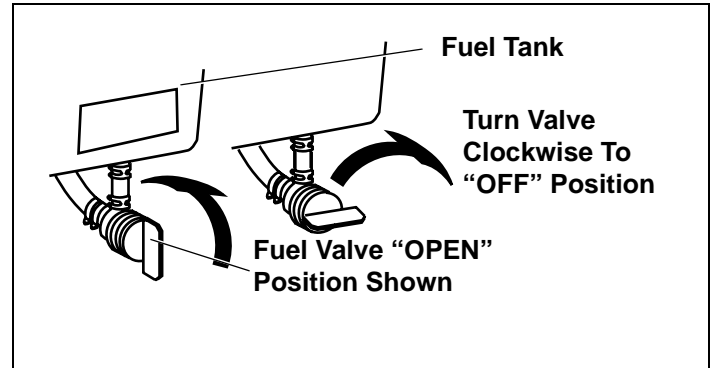

Figure 27. Optional Fuel Valve Positions
2. Be sure fuel valve is open, if provided. See Figure 27.
2. Be sure fuel valve is open, if provided. See Figure 27 on page 15. Afterward, continue reading instructions below.